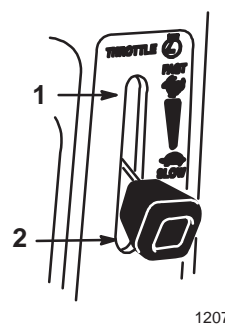

Figure 5
5. Move throttle lever to “FAST” (Fig. 5).
7. After the engine starts, move the choke lever to “OFF” and slowly move the throttle to the desired setting (Fig. 5). If the engine stalls or hesitates, move the choke lever back to “ON” for a few seconds. Then move the throttle lever to “FAST.” Repeat this as required.
1. Move the throttle lever to “SLOW” (Fig. 5).